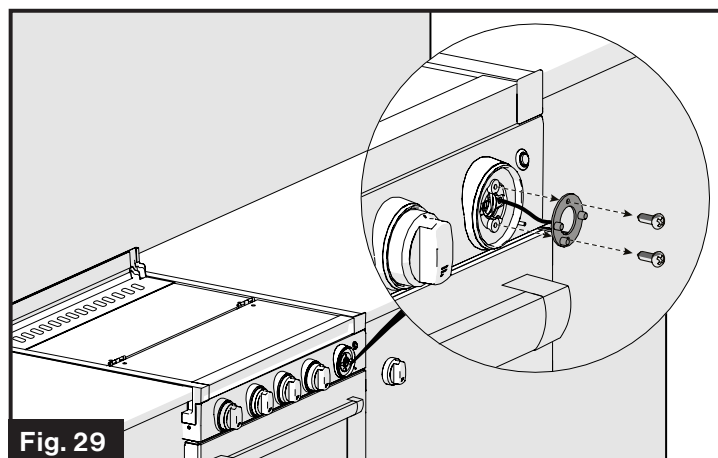

Fig. 29
3. Remove the two screws holding the LED light using a Phillips screwdriver. (Fig. 29)